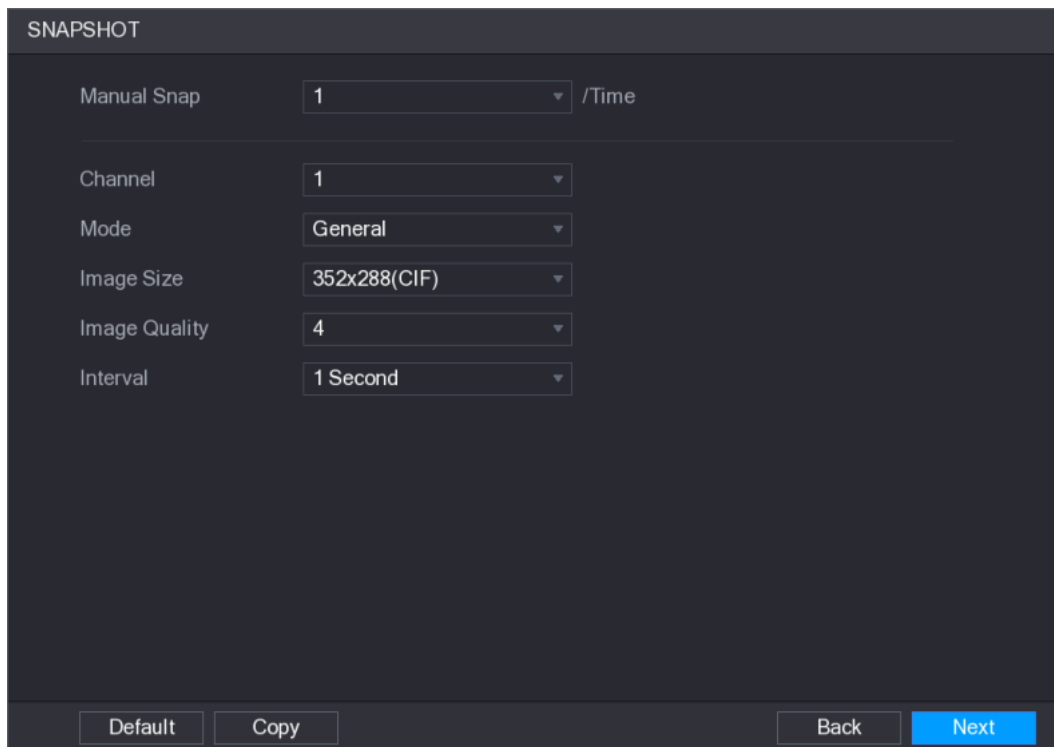

Figure 5-25
Step 1 After you have configured the encode settings, on the **Encode** interface, click **Next**. The **SNAPSHOT** interface is displayed. See Figure 5-25.